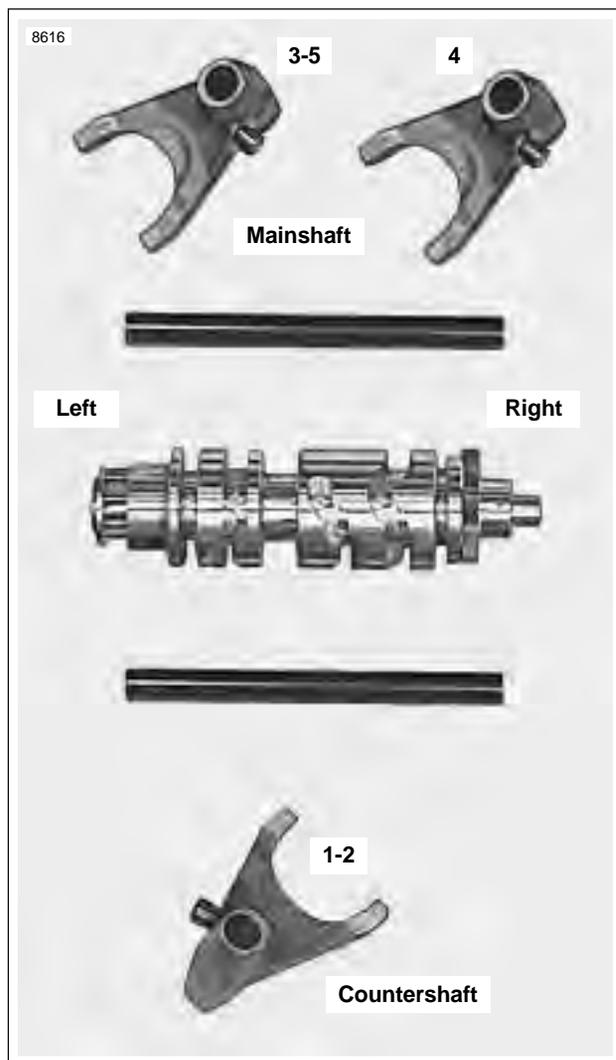

Figure 6-83. Shifter Forks, Drum and Shafts
- See Figure 6-83. Shifter fork design allows for one common part number for all three shifter forks. As the transmission runs, each shifter fork develops a certain wear pattern with its mating parts. For this reason, it is important that each shifter fork be reinstalled in its original location.